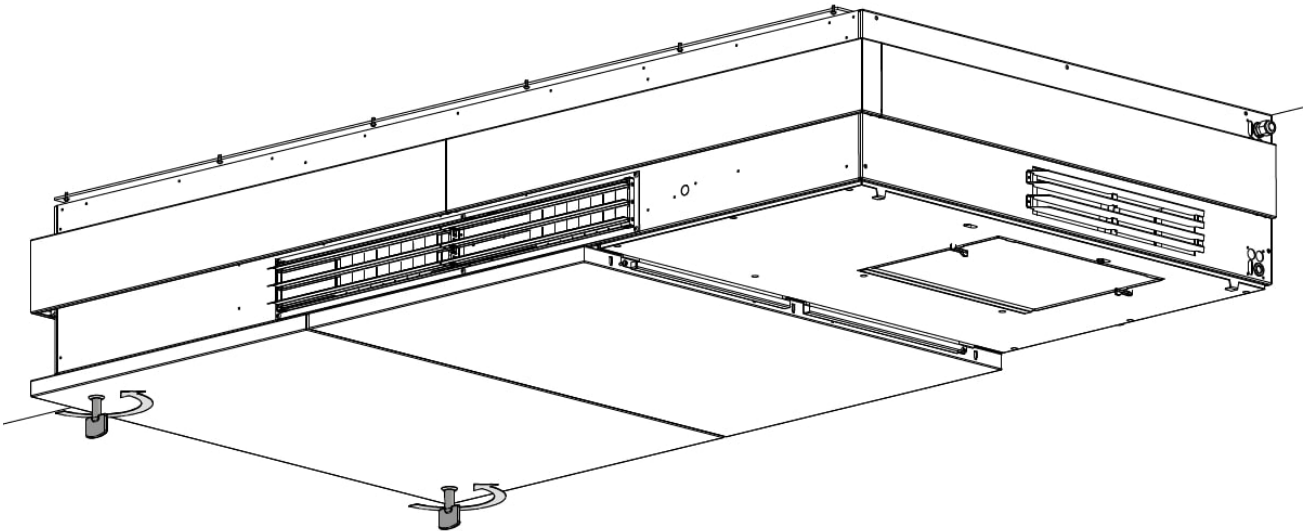

Figure 55: Lock the left-hand service cover
4. Lock the service cover using the enclosed key, see Figure 55.